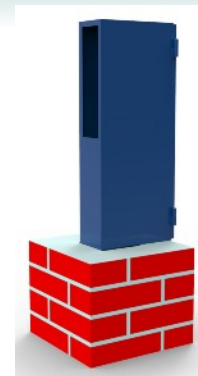

Fig 1
- Build the pier up as shown in *Figs 1, 2 and 3*.